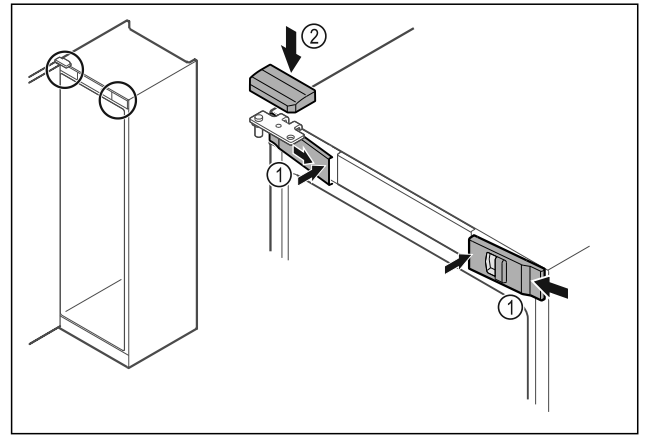

Fig. 50 *
- ▶ Hook in the front covers Fig. 50 (1) on the side and snap them into place on the inside.*
- ▶ Snap on the top cover Fig. 50 (2) from above.*